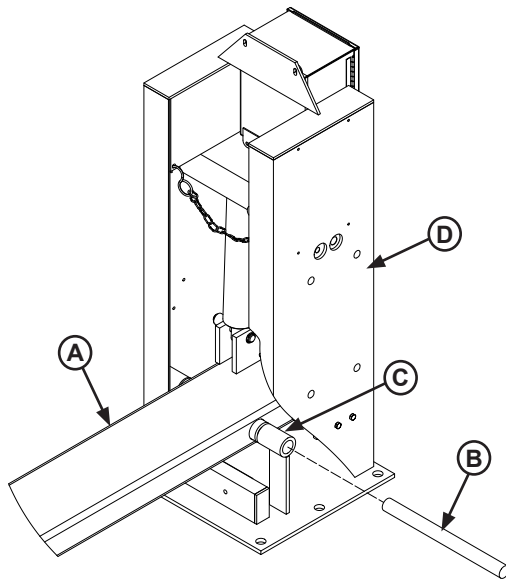

Figure 5
1. Assemble barrier arm (A) into main body (C) with pivot pin (B) provided as shown in Figure 5. Then, lower the pin cover plate and tighten screws to prevent pin movement. At this time, DO NOT connect lift cylinder rod to barrier arm (A).